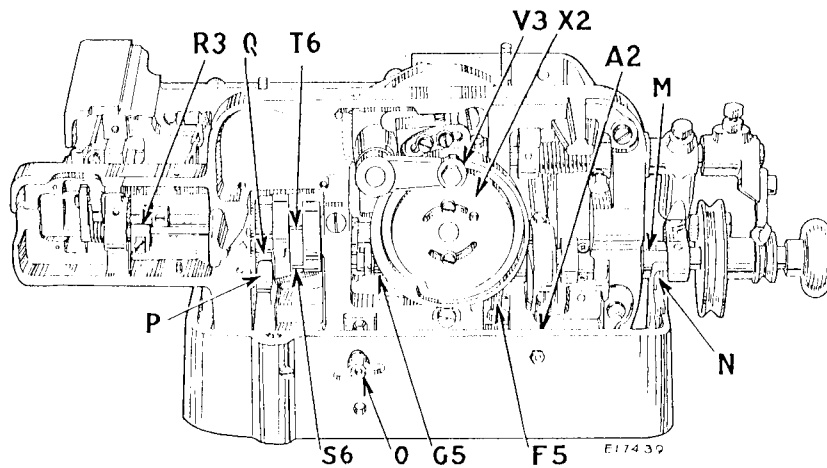

Fig. 8. Bottom View of Machine Showing Oiling Points
The sewing machine is placed in the machine base with the cast iron hub (M, Fig.8) in the rear trunnion (N, Fig.8) of the machine base, while the stud (Q, Fig.8) is placed in the trunnion (P, Fig.8) at the front end of the machine base, as shown in Fig.8. When the sewing machine is properly placed on the trunnions
of the machine base, it can be laid over to the left, as shown in Fig.8, for oiling purposes, adjustments, etc.
To reach the oiling points in the machine bed (not reached through oil holes at the top of the machine bed) loosen the wing nut (O, Fig. 8) and lay the machine back, to the left, as shown in Fig. 8.
Apply a drop or two of oil to the oiling points indicated by arrows in Fig. 8, and as instructed below and on next page.
M. Where the rear hub turns in the trunnion (N) when the machine is turned back as shown in Fig. 8.
Q. Where the front hub turns in the trunnion (P) when the machine is turned back as shown in Fig. 8.